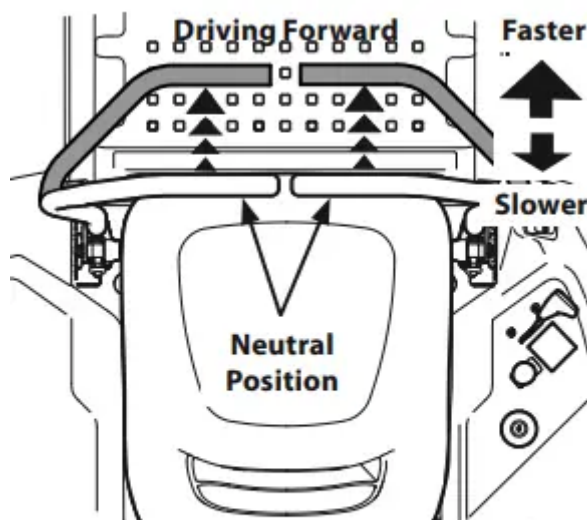

**Figure 18**
2. Move the RH and LH lapbar drive control levers inward in the neutral position which also disengages the parking brake. Refer to Figure 18.